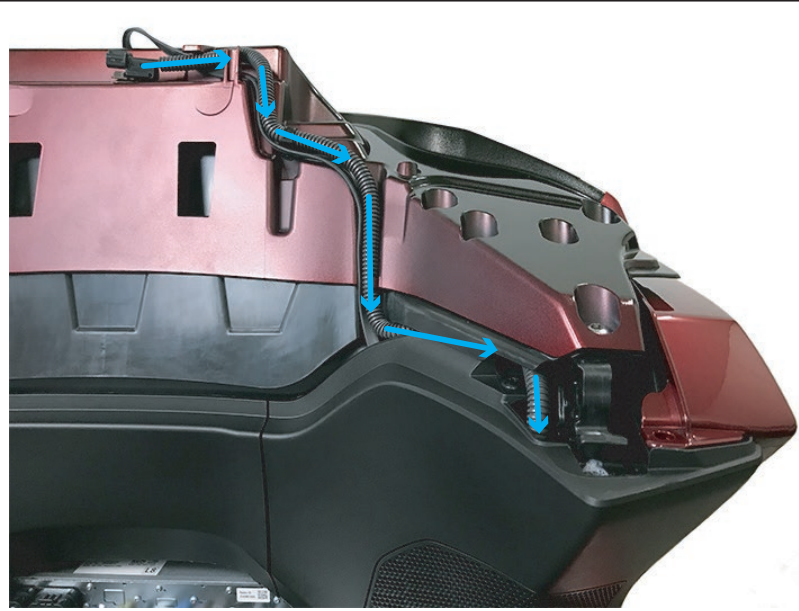

Fig.5
17. Route the LED Trunk Light wire along the same path as the backrest heater cable, behind the speaker grills into the under seat area. Check that the wires will not be pinched and secure it with zip ties. FIG.5